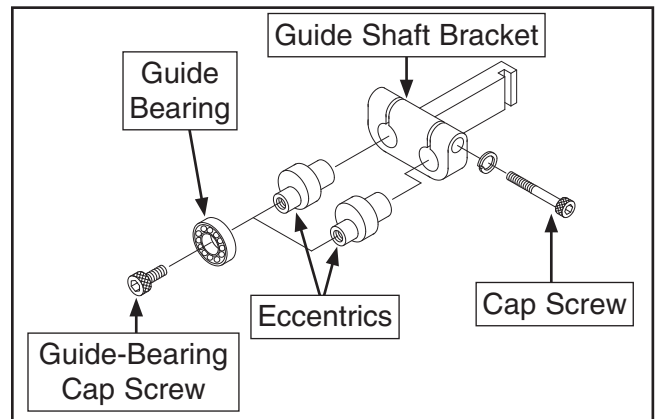

Figure 1. Blade support assembly.
3. Remove guide-bearing cap screws and guide bearings (see **Figure 1**).